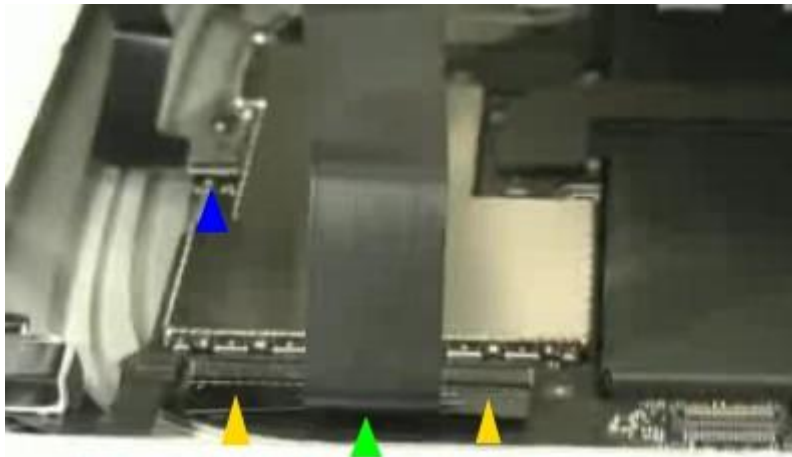

Figure 1
- As you open the case you will need to release one of the ribbon cables that is connected to the board indicated by the green arrow-head in figure 1. Using a safe open pry tool you must flip up both locks (shown by the orange arrow-heads in figure 1) that hold the ribbon in place before you are able to slide the ribbon out.
- You will then have to unplug the connector from the motherboard shown by the blue arrow-heads in figure1. It will be very easy to pull it up and off the motherboard. It is just like a plug and will pop right off.